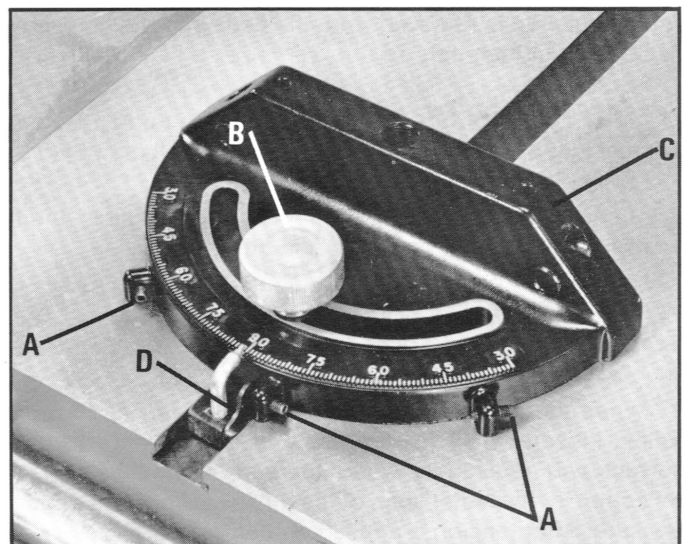

Fig. 28
Your Delta Miter Gage is accurately constructed and equipped with the individually adjustable index stops at 90 degrees and 45 degrees right and left. Adjustment to the index stop can be made by tightening or loosening the three adjusting screws (A) Fig. 28.
To operate the miter gage, loosen the lock knob (B) Fig. 28, and move the body of the miter gage (C) to the desired angle. The miter gage body will stop at 90 degrees and 45 degrees both right and left. To rotate the miter gage body past these points, the stop link (D) Fig. 28, must be flipped out of the way.